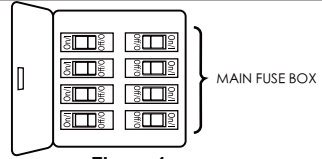
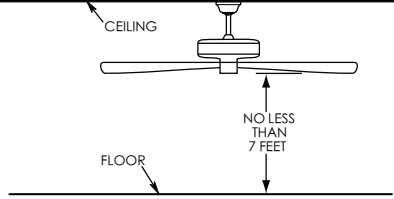
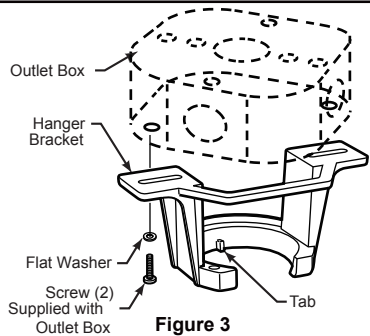

Figure 1
Figure 2
Figure 3
Your new ceiling fan will require a grounded electrical supply line of 120 volts AC, 60 HZ, 15 Amp Circuit. Electrical code requires use of a fan-rated outlet box to support the extra weight and motion associated with a ceiling fan. A fan-rated box will be labeled as such and typically supports up to a 70lb ceiling fan. Fan-Rated Outlet Boxes vary in ratings and design. Ensure the ratings of your ceiling fan outlet box meet the requirements for the ceiling fan being installed. Figure 1, Figure 2 and Figure 3 depicts different structural configurations that may be used for mounting the outlet box.
Low profile box (Figure 1)
Deep box (Figure 2)
Deep box with brace (Figure 3)
1. Remove the four stabilizer tabs and plastic bag from the motor. Discard the stabilizer tabs. (Figure 1)
- 2. Remove the two set screws and locking nuts of the downrod support from the motor assembly then retain the screws and nuts for **How to Assemble Your Ceiling Fan**, Step 4. (Figure 2)
- 3. Remove the six preassembled screws of the motor coupler washer from the motor assembly, then retain the screws for reinstallation in Step 7. (Figure 3)
1. Remove the hanger ball portion from the downrod/hanger ball assembly by loosening the set screw in the hanger ball until the ball falls freely down the downrod. Remove the pin from the downrod, then remove the hanger ball. Retain the pin and hanger ball for reinstallation in Step 6. (Figure 1)
2. Remove the hairpin clip and clevis pin from the bottom of the downrod. Retain the pin and clip for reinstallation in Step 4. (Figure 2)
3. Route the black, white and blue wires through the downrod. (Figure 3)
To avoid possible fire or shock, be sure electricity is turned off at the main fuse box before hanging. (Figure 1)
The fan must be hung with at least 7' of clearance from floor to blades. (Figure 2)
1. Securely attach the hanger bracket to the outlet box (not included) using the outlet box screws and washers supplied with the outlet box. (Figure 3)
1. To set the code on receiver unit, slide dip switches to the same positions as set on the remote. (Figure 1)
To avoid possible electrical shock, be sure electricity is turned off at the main fuse box before wiring (Figure 2).
2. Slide receiver unit into the Hanger Bracket. (Figure 3)
- 1. Assemble canopy by rotating key slot in canopy over shoulder screw in hanger bracket. Tighten shoulder screw. Fully assemble and tighten second shoulder screw that was previously removed. (Figure 1)
- 2. Securely attach and tighten the canopy screw cover over the shoulder screws in the hanger bracket utilizing the keyslot twist-lock feature. (Figure 2)
- 1. Remove one of the three screws in the support bracket at the bottom of the motor assembly and retain the screw for later and slightly loosen the remaining two screws. (Figure 1)
- 2. Assemble the light kit to the support bracket using the two key slots in the light kit. Replace the previously removed screw and securely tighten all three screws. (Figure 2)
3. Remove the three screws in the light kit and retain the screws for later. (Figure 3)
- 1. IMPORTANT:** Using a full range dimmer switch (not included) to control fan speed will damage the fan. To reduce the risk of fire or electrical shock, do not use a full range dimmer switch to control the fan speed. (Figure 1)
- 2.** Restore electrical power to the outlet box by turning the electricity on at the main fuse box. (Figure 2)
- 3.** To make fan operational, install 23A/12V battery (included) in hand-held remote transmitter, with fan power off. Then follow the remote code setting process. (If not used for long periods of time, remove battery to prevent damage to transmitter). Store the remote away from excessive heat or humidity. (Figure 3)